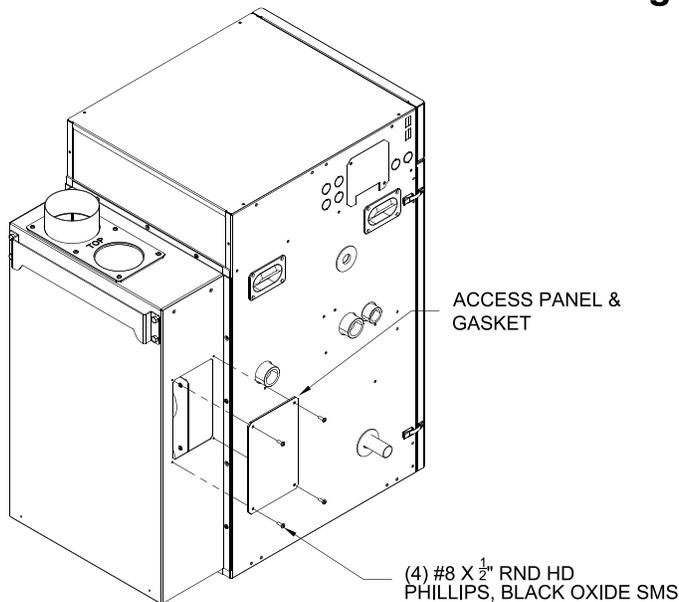

Figure 3-5: Access Panel and Gasket Installation
- n. After the boiler has been piped, wired, connected to vent and combustion air system piping and combustion performance testing completed per Section 9 "System Start-up", install Access Panel/Gasket assembly and secure with provided four #8 x 1/2 in. black oxide Phillips head sheet metal screws. See Figure 3-5 "Access Panel and Gasket Installation".